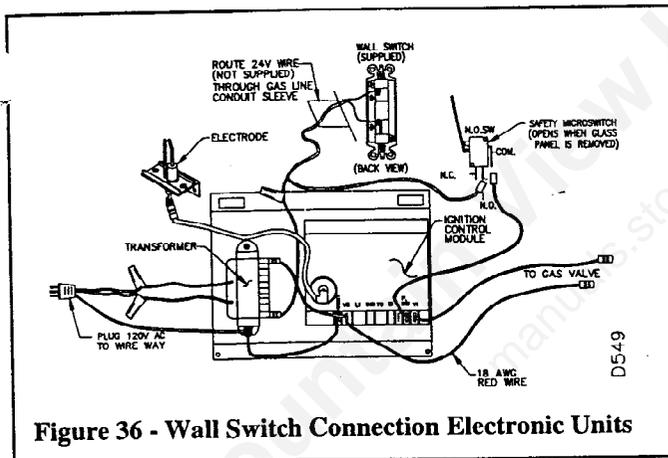
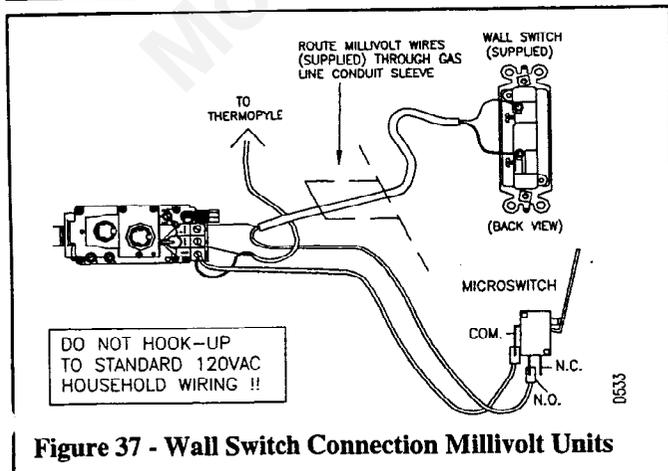

Figure 36 - Wall Switch Connection Electronic Units
Figure 37 - Wall Switch Connection Millivolt Units
The DVF36E series uses a 24 VAC current supplied from a transformer mounted on the ignition module and is prewired for easy connection to a wall switch (see Figure 36). The DVF36 versions use a self-generated millivolt current that allows you to activate the gas control valve directly, without the use of normal household electricity (see Figure 37). Both versions are supplied with a wall switch kit for ready connection and mounting.
2. Connect the WALL SWITCH to the gas control valve terminal marked TH or the ignition transformer wire with the 18 GA wire and connectors supplied with the appliance. Then connect the remaining wire to the microswitch with the connector provided. See figures 36 and 37.
2. Disconnect the wall switch wires from the terminals marked TH on the control valve and NO on the microswitch (see Figure 37, page 15).
2. If a wall switch was installed it must be removed from the ignition control circuit for the remote to work properly. Remove the wirenuts from the switch connection at the ignition control module. Using one of the wirenuts, connect the transformer (blue) wire to the remaining wire connected to the control terminal marked (P. SW) (see Figure 37 on page 15).